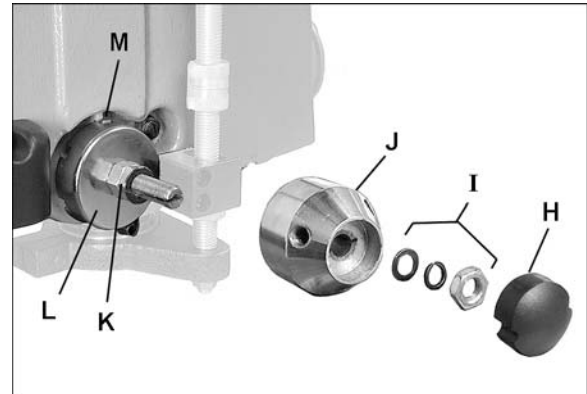

Figure 20
Referring to Figure 20:
2. Pry off cap (H, Figure 20) and remove hex nut and two washers (I). Pull off hub (J).
3. Loosen two inner hex nuts (K) *Do not remove*.
4. Pull out slightly the coil spring cover (L) while firmly holding it. **DO NOT** allow the coil spring cover to turn freely in your hand, or the spring will unwind.
5. Rotate coil spring cover until tab (M) on the spring retainer engages the next notch in coil spring cover. Rotate coil spring cover counterclockwise to increase spring tension, clockwise to decrease.
6. Make sure coil spring cover is pushed back in, then tighten two hex nuts (K). Do not over tighten. The hex nuts should be tightened against each other.
The quill return spring should receive SAE 20 oil once yearly. Apply the oil beneath the coil spring cover (L, Figure 20) using a squirt can.